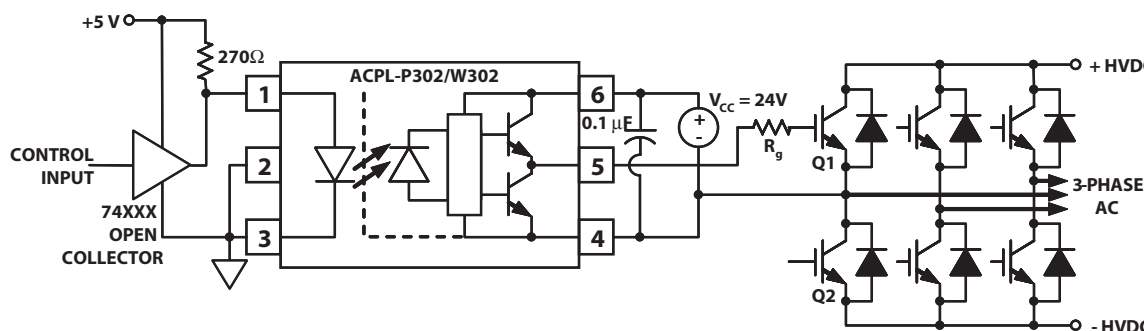
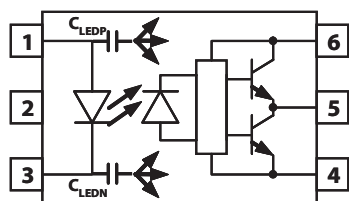
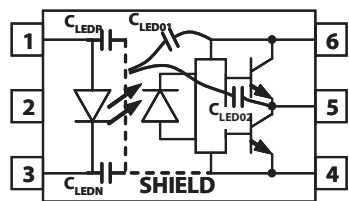
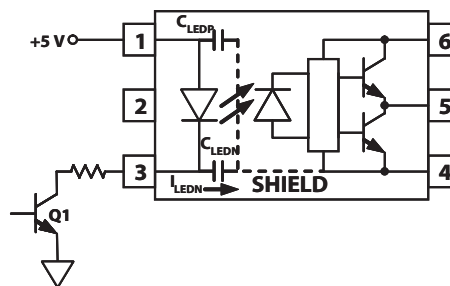

Figure 17. Recommended LED Drive and Application Circuit for ACPL-P302/W302
Figure 19. Optocoupler Input to Output Capacitance Model for Unshielded Optocouplers.
Figure 20. Optocoupler Input to Output Capacitance Model for Shielded Optocouplers.
Figure 22. Not Recommended Open Collector Drive Circuit.
To keep the IGBT firmly off, the ACPL-P302/W302 has a very low maximum  $V_{OL}$  specification of 1.0 V. Minimizing  $R_g$  and the lead inductance from the ACPL-P302/W302 to the IGBT gate and emitter (possibly by mounting the ACPL-P302/W302 on a small PC board directly above the IGBT) can eliminate the need for negative IGBT gate drive in many applications as shown in Figure 17. Care should be taken with such a PC board design to avoid routing the IGBT collector or emitter traces close to the ACPL-P302/W302 input as this can result in unwanted coupling of transient signals into the input of ACPL-P302/W302 and degrade performance. (If the IGBT drain must be routed near the ACPL-P302/W302 input, then the LED should be reverse biased when in the off state, to prevent the transient signals coupled from the IGBT drain from turning on the ACPL-P302/W302.
Step 1: Calculate  $R_g$  minimum from the  $I_{OL}$  peak specification. The IGBT and  $R_g$  in Figure 17 can be analyzed as a simple RC circuit with a voltage supplied by the ACPL-P302/W302.
where  $K_{ICC} \cdot Q_g \cdot f$  is the increase in  $I_{CC}$  due to switching and  $K_{ICC}$  is a constant of 0.001 mA/(nC\*kHz). For the circuit in Figure 17 with  $I_F$  (worst case) = 10 mA,  $R_g = 57.5 \Omega$ , Max Duty Cycle = 80%,  $Q_g = 100$  nC,  $f = 20$  kHz and  $T_{AMAX} = 85^\circ C$ :
Without a detector shield, the dominant cause of optocoupler CMR failure is capacitive coupling from the input side of the optocoupler, through the package, to the detector IC as shown in Figure 19. The ACPL-P302/W302 improves CMR performance by using a detector IC with an optically transparent Faraday shield, which diverts the capacitively coupled current away from the sensitive IC circuitry. However, this shield does not eliminate the capacitive coupling between the LED and optocoupler pins 5-8 as shown in Figure 20. This capacitive coupling causes perturbations in the LED current during common mode transients and becomes the major source of CMR failures for a shielded optocoupler. The main design objective of a high CMR LED drive circuit becomes keeping the LED in the proper state (on or off) during common mode transients. For example, the recommended application circuit (Figure 17), can achieve 10 kV/ $\mu$ s CMR while minimizing component complexity.
The open collector drive circuit, shown in Figure 22, can not keep the LED off during a  $+dV_{CM}/dt$  transient, since all the current flowing through  $C_{LEDN}$  must be supplied by the LED, and it is not recommended for applications requiring ultra high CMRL performance. The alternative drive circuit which like the recommended application circuit (Figure 17), does achieve ultra high CMR performance by shunting the LED in the off state.